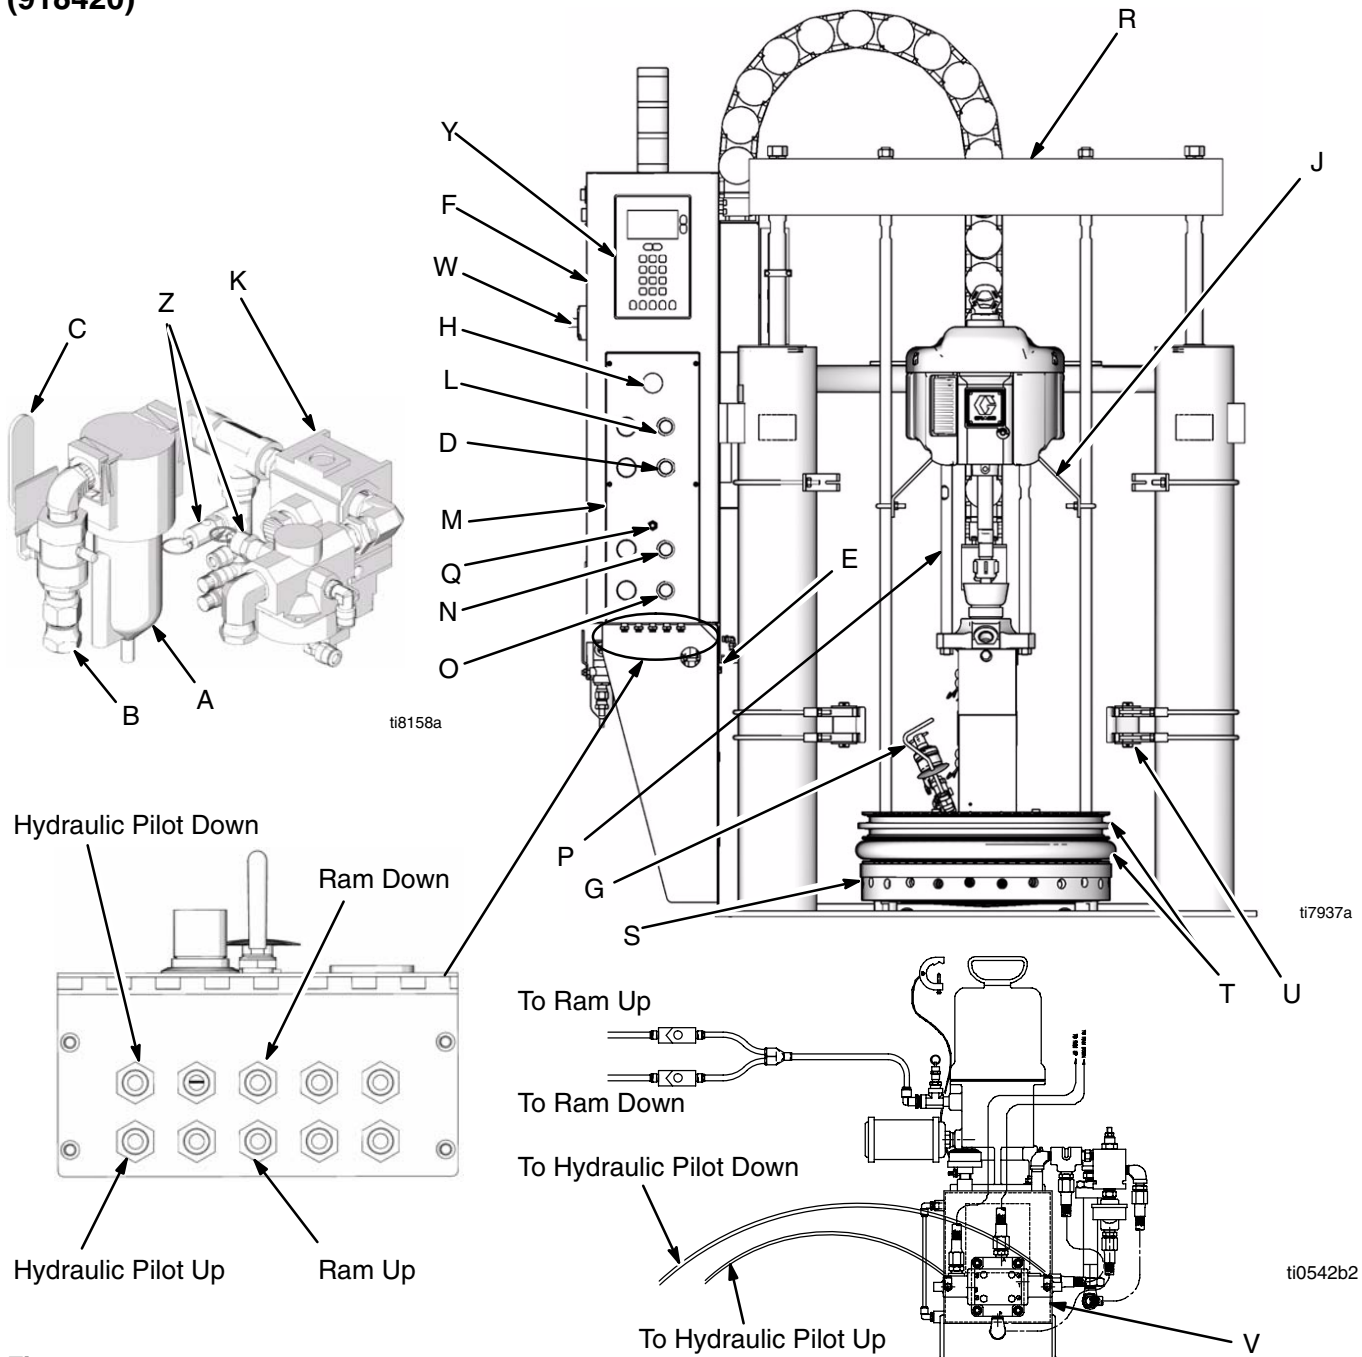
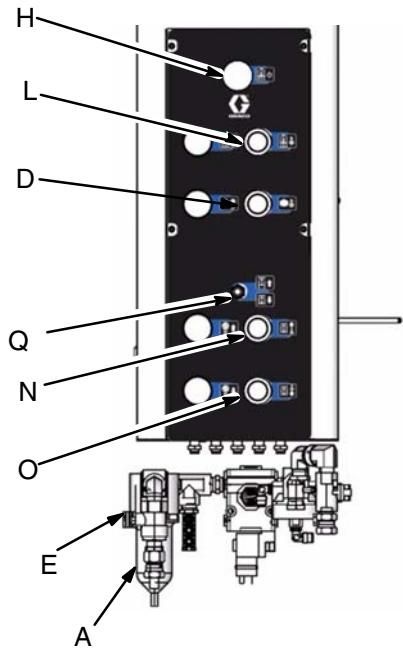

Fig. 4
Fig. 5
Before you install the system you should be familiar with the parts discussed below. For more information, refer to Fig. 4 on page 10.
See the Typical Installation drawing (Fig. 4) and Fig. 5. The following components are included with the module:
- The air motor master air valve (E, Fig. 4) is required in your system to relieve air trapped between it and the air motor when the valve is closed. This valve should be easily accessible and located downstream from the air regulator.
- The system bleed-type master air valve (C, Fig. 5) is required in your system to shut off the air supply to the entire unit. Locate this valve upstream from all other air accessories.
- Pump Air Regulator (D) controls pump speed and outlet pressure by adjusting the air pressure to the pump. It is located on the air control panel.
- Hydraulic Power Supply (Fig. 4, item V) controls the ram's movement.
- Ram Plate Blow-off Push Button Valve (H) controls the air pressure to the ram plate blow-off valve.
- Air Filter (A) conditions the air to the ram and the pump.